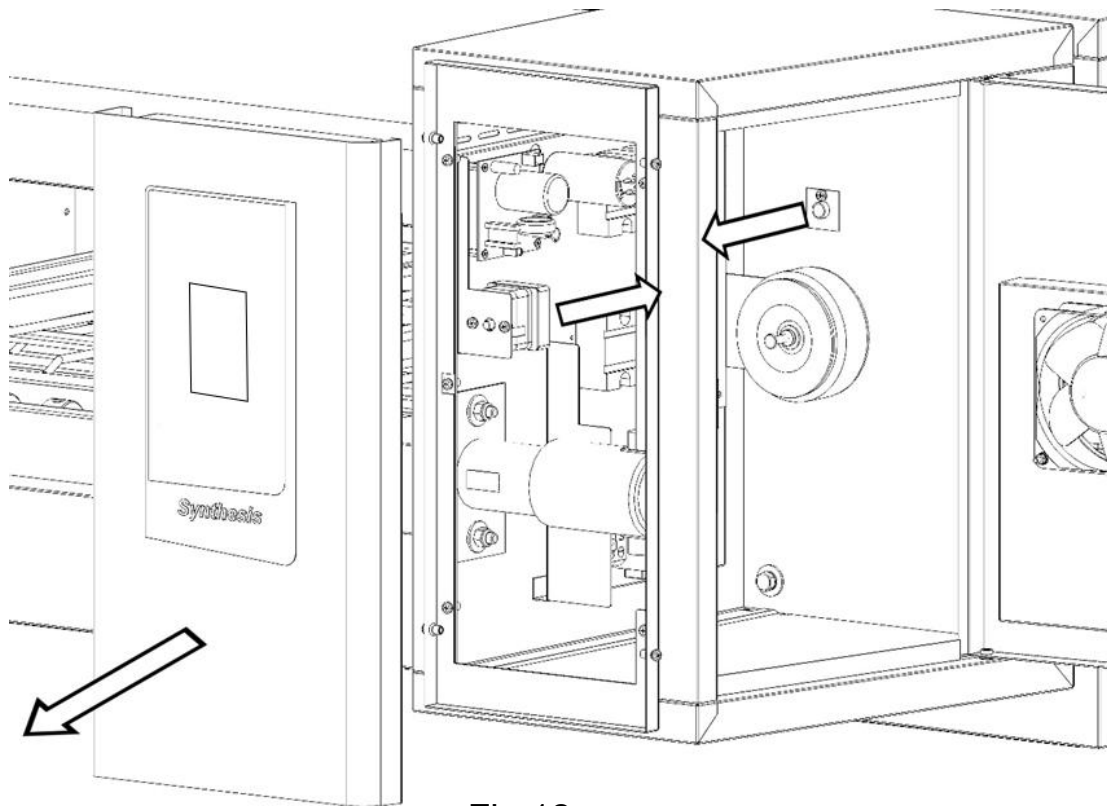

Fig.12
- 3.Disconnect the electrical connections on the thermostat (Fig.12).
- 4.Remove the silicone seal of the probe and remove the bulb, loosen the screws and replace the thermostat (Fig.12).